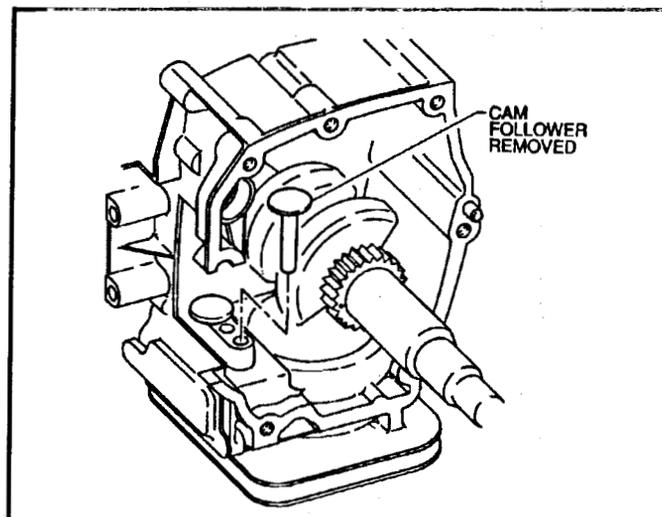

Figure 67
4. Remove the cam followers. The cam followers are identical, however; if the engine has been run and the followers are going to be reused, make sure you install the followers in their original position to maintain established wear patterns. See Figure 67.